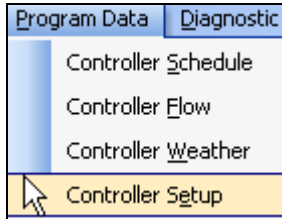

Figure 16.5.1C
1. In the toolbar at the top of the screen click on **Program Data** then scroll down to the words **Controller Setup** and click on it (Figure 16.5.1C).